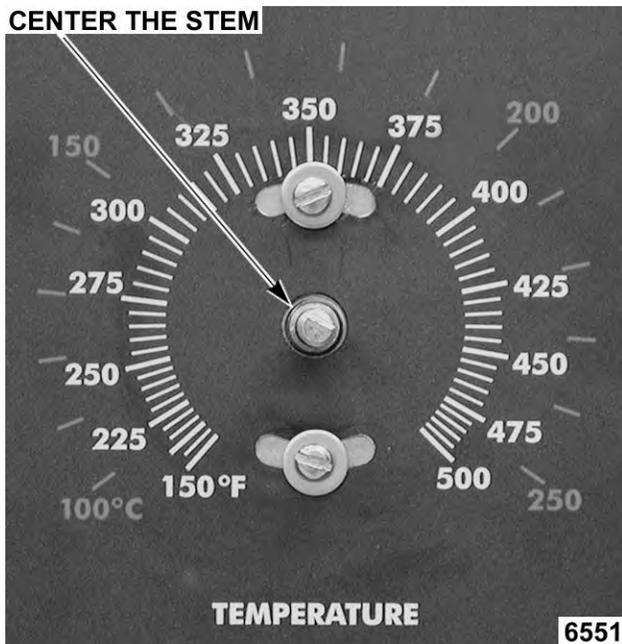

Fig. 58
- b. Center stem (Fig. 58) in opening and re-tighten temperature control mounting screws.